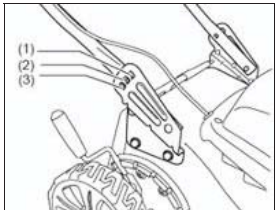

Fig.7C
2. Refer to Fig.7C, move the lower handle up and down, adjust it to the proper height. There are 3 height positions to select on this type of lawn mower; at 1 height, lower handle to the ground is highest, 3 height is the lowest.